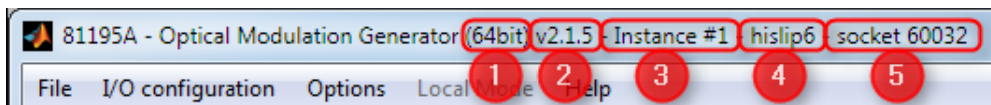

Figure 8 81195A Optical Modulation Generator title bar
Furthermore it indicates whether this instance of the 81195A OMG software is running in 32bit or 64bit mode (1), its revision number (2), its user-defined instance name (3), its auto-generated HiSLIP address (4) and its user-defined socket port number (5) (see figure Figure 8 on page 49)